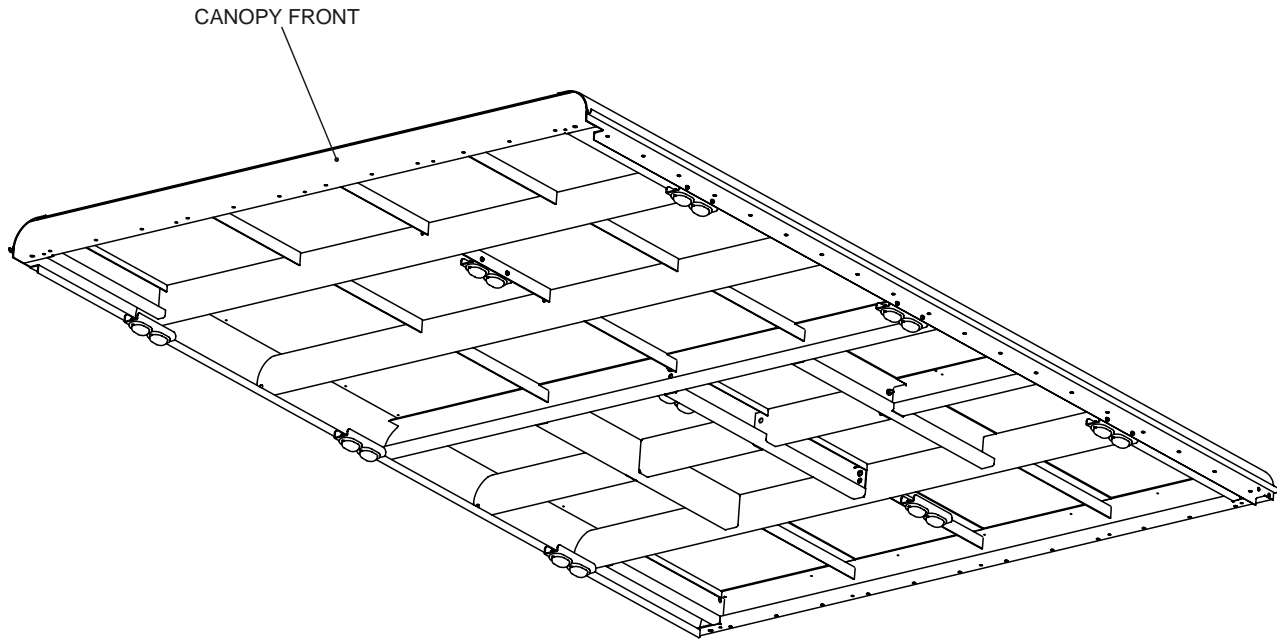

Figure 2 Cargo Area Lighting Layout
2. Lighting is provided in the cargo area by nine white and nine blue LED lights (Figure. 2). Lights are mounted in brackets attached to the interior roof assembly. Each bracket houses one white and one blue LED light fitting. A three-position switch, fitted above the cable reel stowage, enables either white or blue LED lights to be selected for loading/unloading operations during normal or blackout conditions. Cargo area lighting will not operate in either reduced or blackout mode.